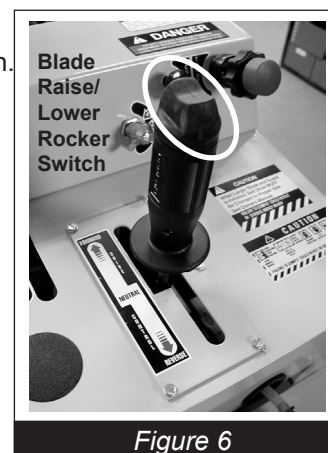

Figure 6
- Raise the blade completely out of the cut by depressing the blade lift/lower switch. (Figure 6) DO NOT attempt to raise the blade with the depth control lock.